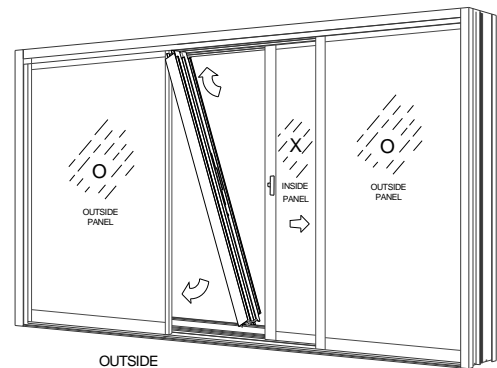

Figure 31:
4. Install the false jamb at an angle until it rests against the left side fixed panel (Figure 31).